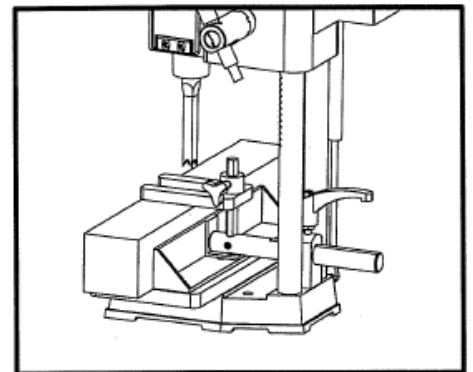

Fig.8
3. Adjust the depth stop rod to correct depth for producing blind mortices. In Fig. 8, the head is lowered so the chisel rests on the workpiece. The depth stop rod is adjusted using a measuring tape to the desired depth. The chisel is lowered until the chisel is even with a depth line on the workpiece. The fence is adjusted before and after the depth stop is locked.